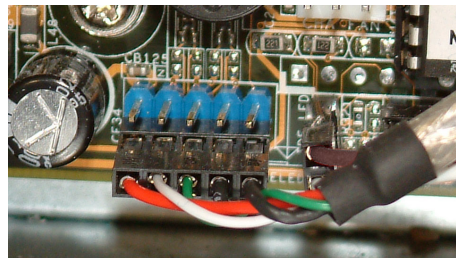

Figure 3
5. Motherboard: Locate the 10-Pin USB header (two five-pin rows). The location of this header will vary between different motherboard brands. Connect Pin 1 (red wire) of the five-pin USB cable to Pin 1 of one of the two 5-pin USB headers (See Figure 3). Please verify pin-out before turning on your system. On some systems you may need to disconnect one of the auxiliary USB ports if the header is occupied.